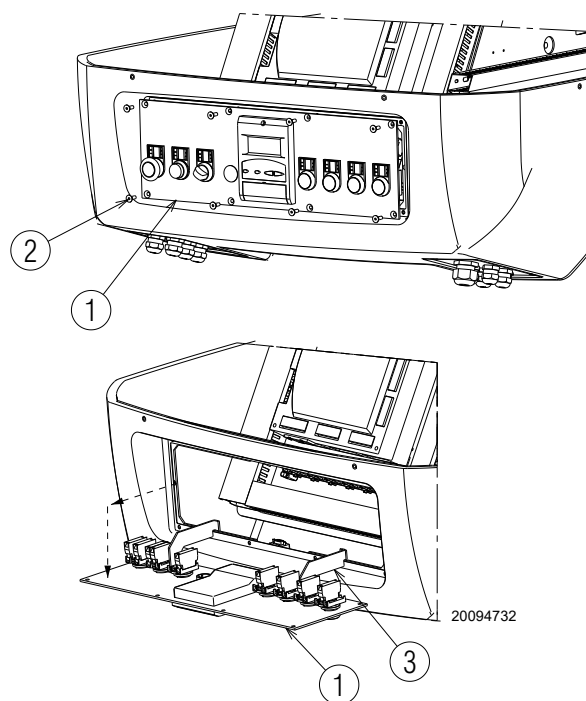

Fig. 35
- extract the control panel 1) and turn it 90°, hooking it with the brackets 3) in the profile of the electrical panel as shown in Fig. 35;